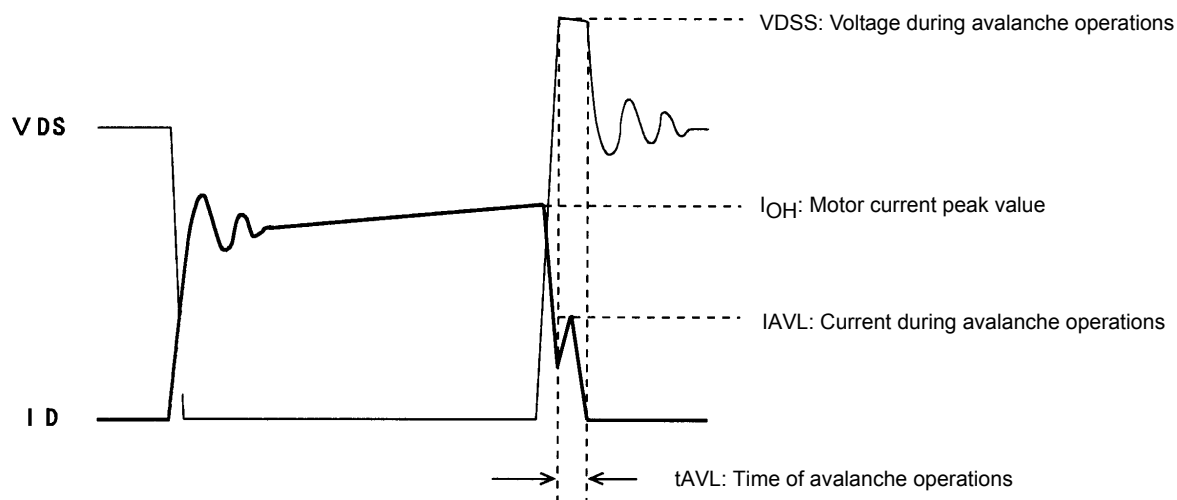

Figure 1 Output Current, I_D , and Voltage, V_{DS} , Waveforms 1 of the STK672-7** Series when Driving a 2-Phase Motor with Constant Current Chopping
When driving a 2-phase Stepper motor with constant current chopping using an STK672-7** Series hybrid IC, the waveforms shown in Figure 1 below result for the output current, I_D , and voltage, V_{DS} .
Although the waveforms during avalanche mode are given in Figure 1, sometimes an avalanche does not result during actual operations.
- Increases in V_{DS} , t_{AVL} , and I_{AVL} in Figure 1 due to an increase in the supply voltage from 24V to 36V.